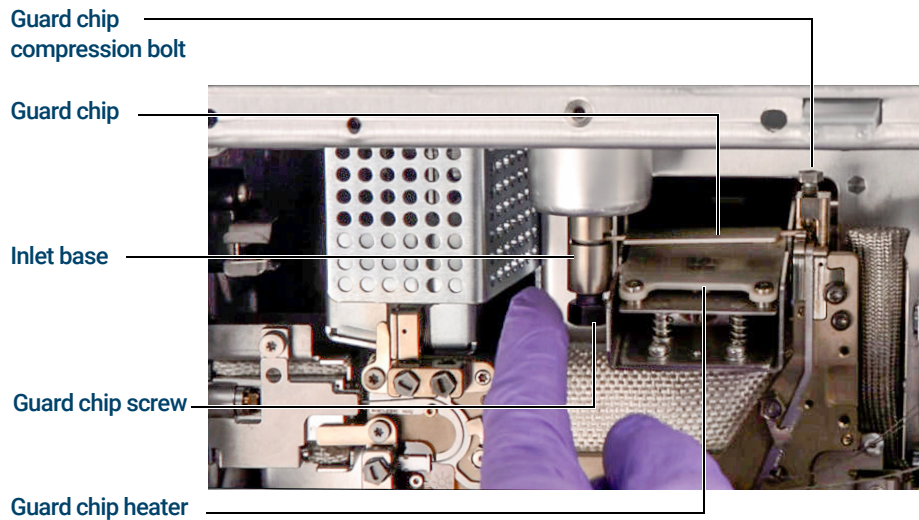

Figure 13. Guard chip and related parts
- 9 Pull the compression bolt access plate out to allow the torque driver to access the Guard chip compression bolt. (See **Figure 13** on page 66.)